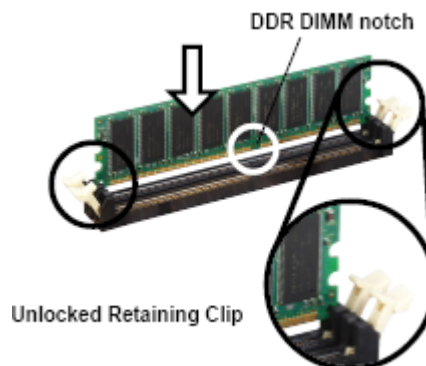

Figure 4-7: Insert DIMM Module
Step 3: Insert the DIMM module slowly. Once you are sure it is correctly inserted, push down firmly. The white handles on either side of the socket will move back up and lock the module into the socket (**Figure 4-7**).